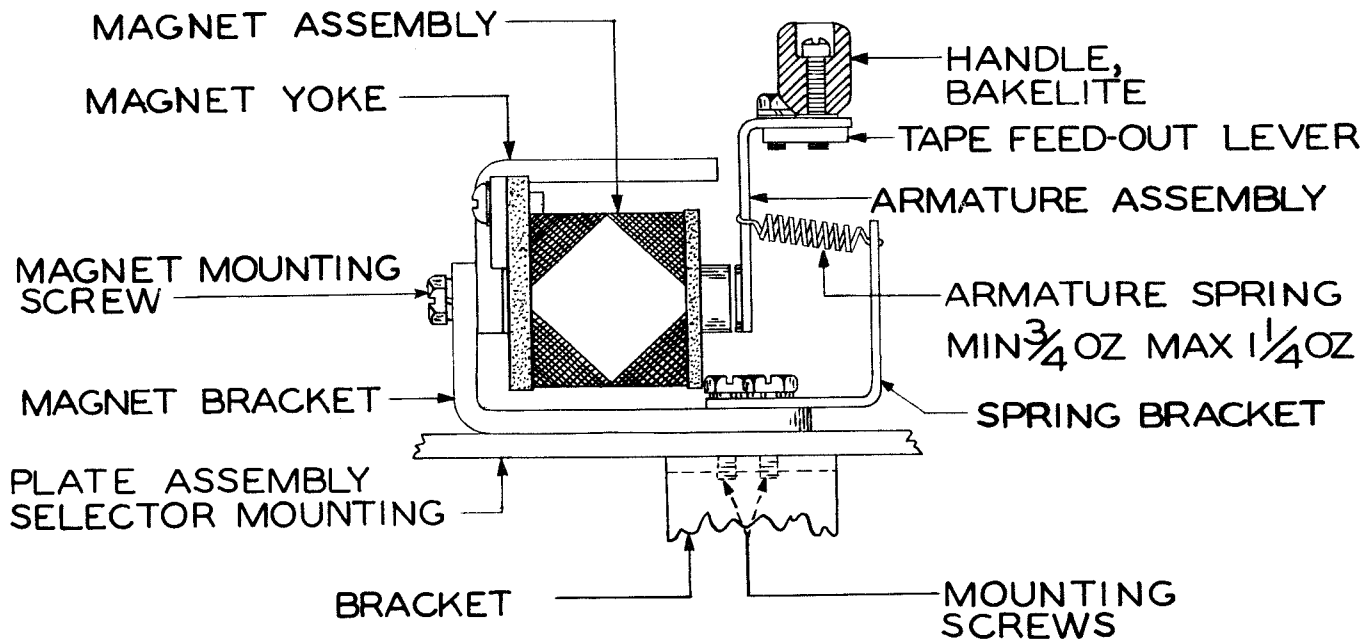

Figure 17
2.28 Tape-feed-out Magnet Yoke: The yoke should be in line with the magnet bracket and the clearance between the magnet-coil terminals and the magnet yoke should be equal on both sides. (See Figure 17.)
2.29 Armature Face: The face should be flush against the magnet core and yoke and in line with them when the tape feed-out lever is fully operated. (See Figure 17.)
2.30 Spring Bracket: The base of the bracket should be parallel to the axis of the magnet coil. (See Figure 17.)
2.31 Armature Spring: It should require minimum 3/4 ounce, maximum 1-1/4 ounces to stretch the spring to position length as measured with the scale held horizontally. (See Figure 17.)